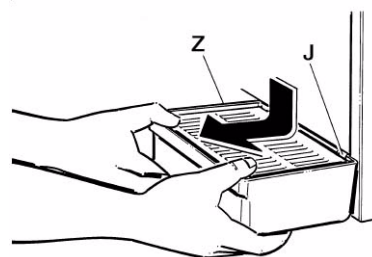

FIGURE 17
8. Remove the drain tray by lifting up on the front edge, while lowering the rear edge, and then lift it off the unit (see Figure 17).
14. Reinstall the drain tray (see Figure 17). Make sure that the condensation drainage tube (J) is reinserted into its correct fixed position, allowing it to drain into the tray.